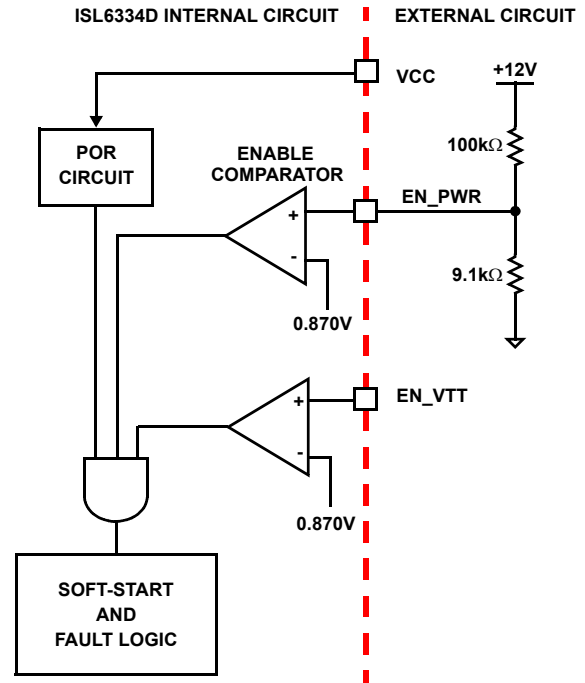

FIGURE 11. POWER SEQUENCING USING THRESHOLD SENSITIVE ENABLE (EN) FUNCTION
2. The ISL6334D features an enable input (EN_PWR) for power sequencing between the controller bias voltage and another voltage rail. The enable comparator holds the ISL6334D in shutdown until the voltage at EN_PWR rises above 0.870V. The enable comparator has about 130mV of hysteresis to prevent bounce. It is important that the driver reaches its POR level before the ISL6334D becomes enabled. The schematic in Figure 11 demonstrates sequencing the ISL6334D with the ISL66xx family of Intersil MOSFET drivers, which require 12V bias.